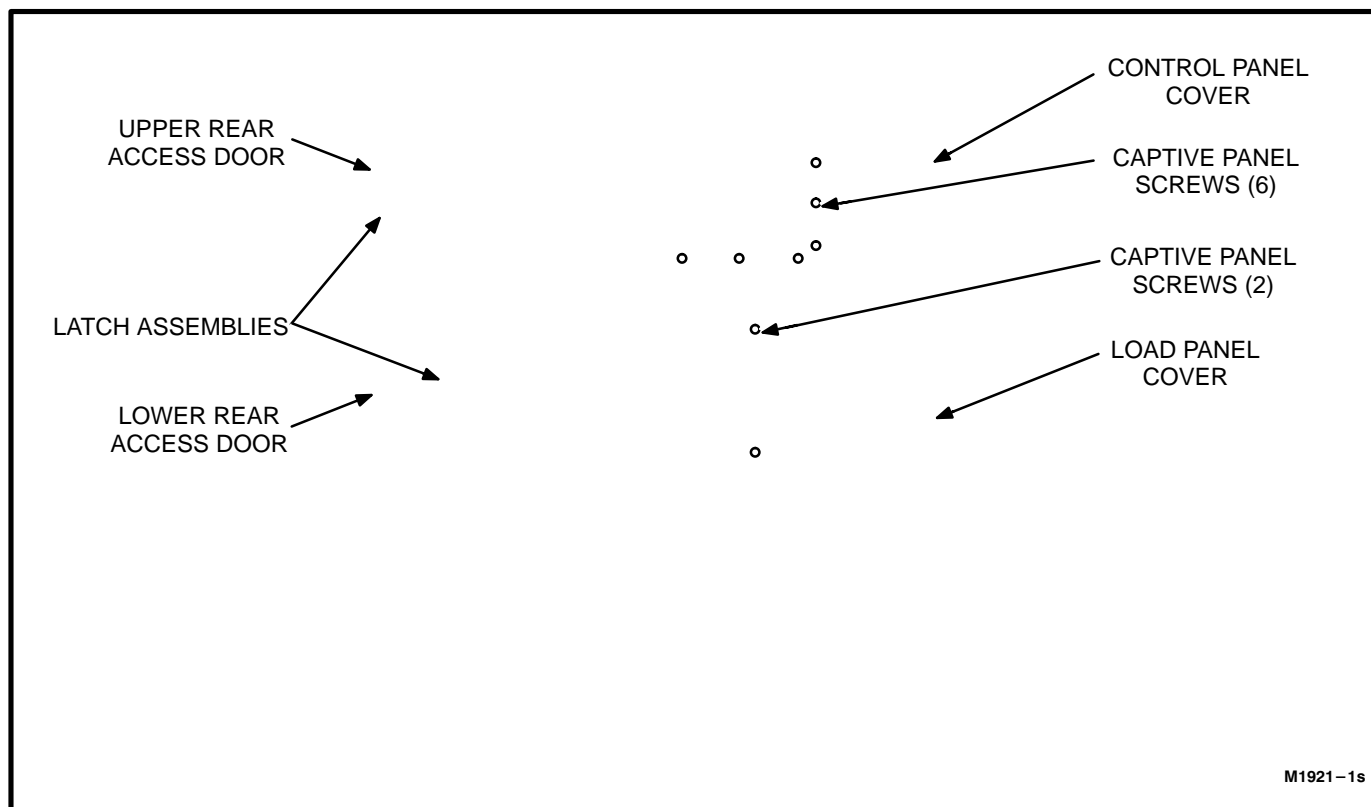

FIGURE 5-2. GENSET REAR PANELS
1. Open the upper rear access door (see Figure 5-2). Grasp the handle of the latch assembly and pull outward to open the access door.
1. Open the upper rear access door. Grasp the handle of the latch assembly and pull outward to open the access door (see Figure 5-2).
1. Open the lower rear access door. Grasp the handle of the latch assembly and pull outward to open the access door (see Figure 5-2).